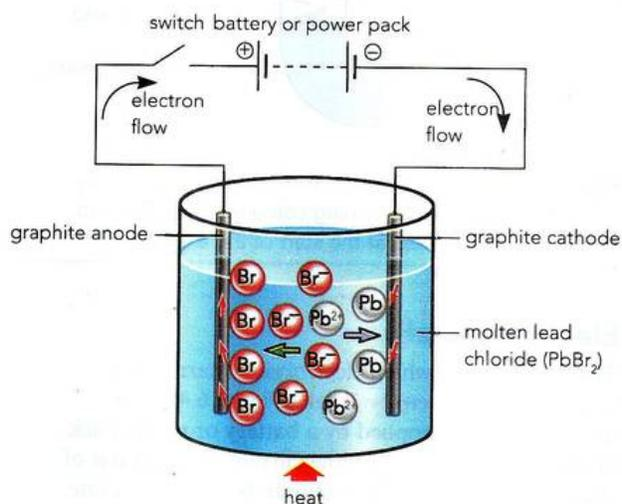

Figure 6.6: Movement of ions in the electrolysis of a molten salt, lead(II) bromide.
An electrolytic cell can be used to electrolyse molten compounds. Heat must be supplied to keep the salt molten. Figure 6.6 shows the electrolysis of molten lead(II) bromide.
When the switch is closed and the circuit is complete, the current flows and bromine vapour (which is red-brown) begins to bubble off at the anode. After a short time, a bead of liquid lead collects at the cathode. The electrical energy from the cell has caused a chemical change (decomposition). The cell decomposes the molten lead(II) bromide because the Pb^{2+} and Br^- ions present move to opposite electrodes where they are discharged. Figure 6.6 shows this movement. This movement of the ions means that when a molten ionic compound is electrolysed: